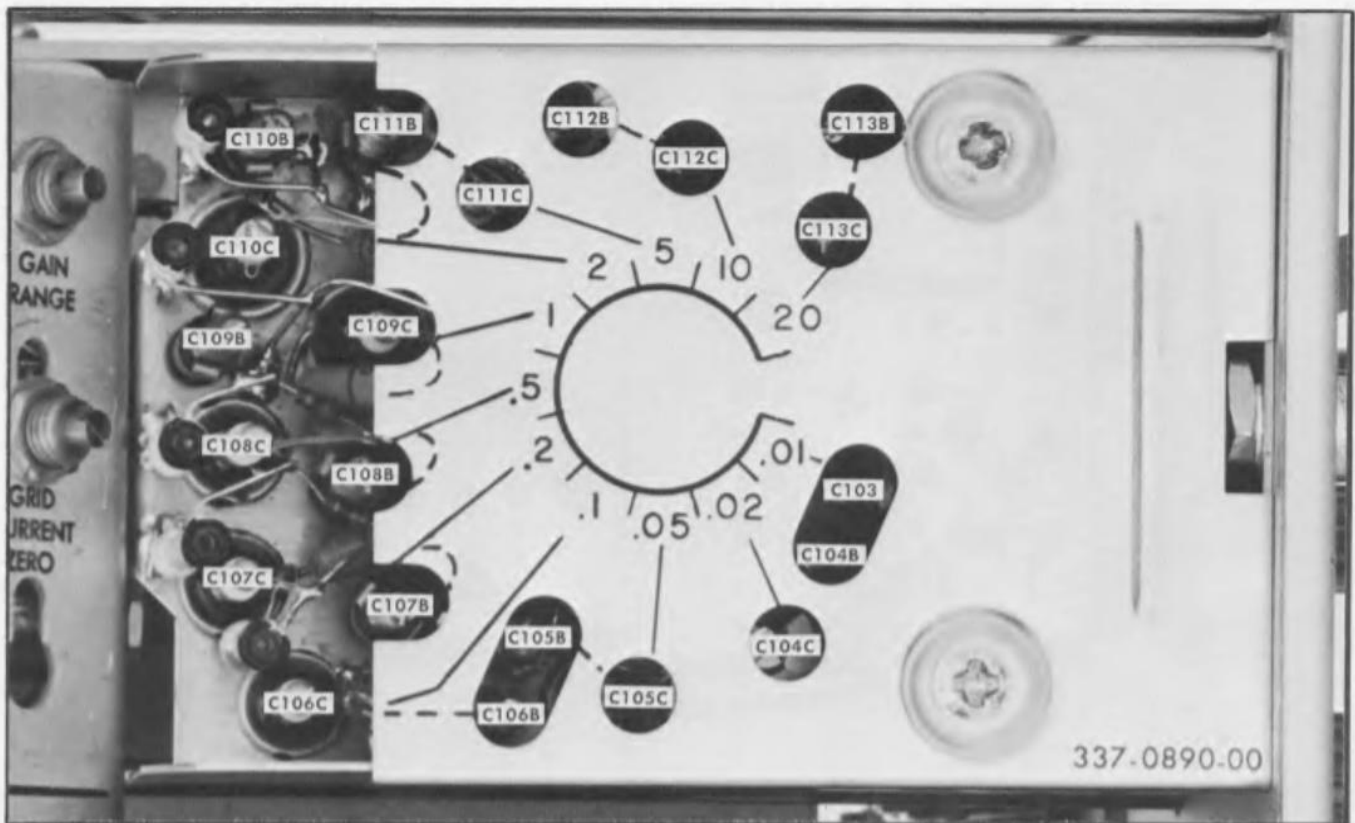
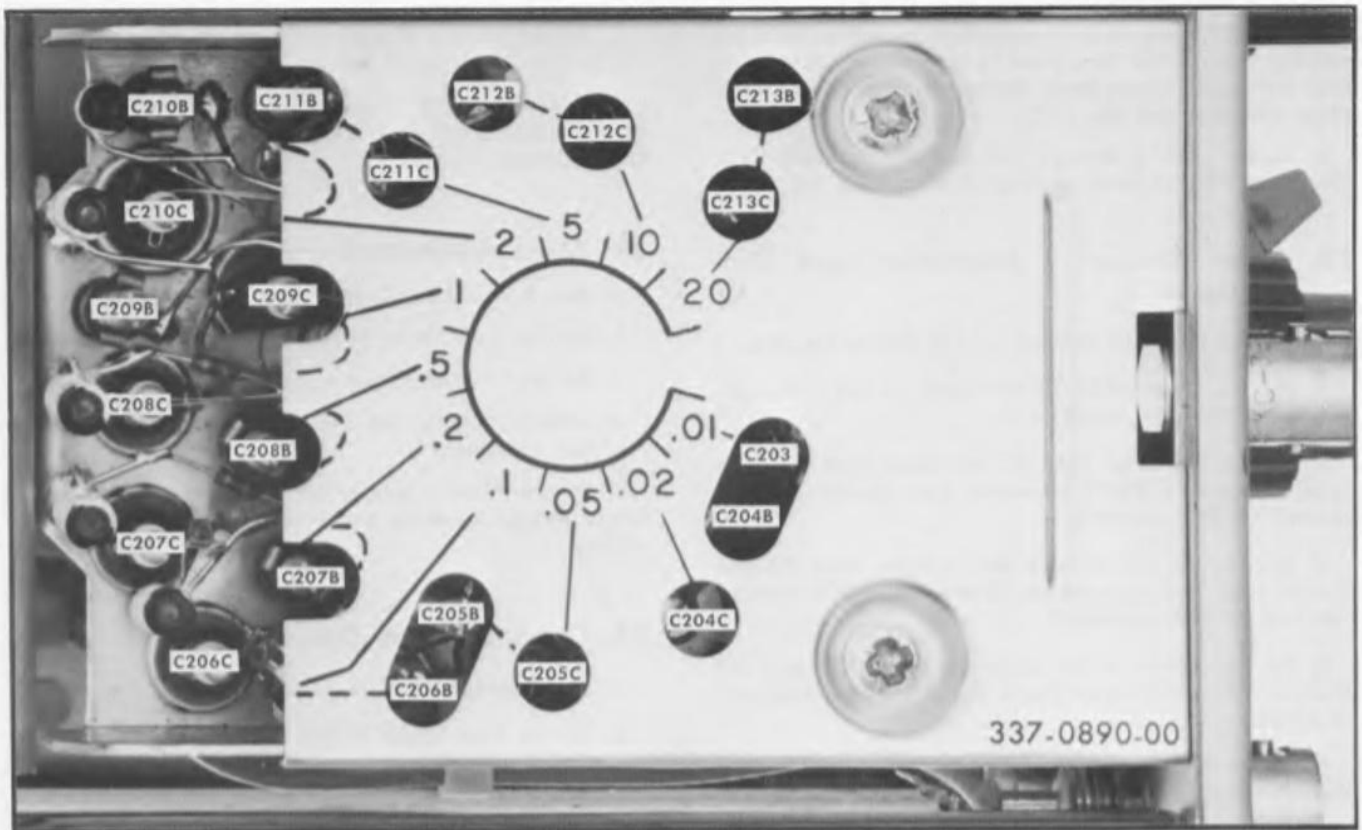

Fig. 6-9. Channel 1 attenuator input time constant adjustments.
Fig. 6-10. Channel 2 attenuator input time constant adjustments.
- j. ADJUST—Refer to the appropriate column in Table 6-2 and Fig. 6-9 for the component to be adjusted for an optimum square cornered square-wave having less than 1% of overshoot, rounding, and tilt.
- g. ADJUST—Refer to the appropriate column in Table 6-3 and Fig. 6-10 for the components to be adjusted for an optimum square cornered square-wave having less than 1% of overshoot, rounding and tilt.
j. ADJUST—Refer to the appropriate column in Table 6-3 and Fig. 6-10 for the component to be adjusted for an optimum flat-topped square-wave having less than 1 % of overshoot, rounding and tilt.
**22. Adjust Channel 1 Attenuator Input Time Constants** ①
h. ADJUST—Refer to the appropriate columns in Table 6-2 and Fig. 6-9 for the components to be adjusted for an optimum flat topped square-wave having less than 1% of overshoot, rounding and tilt.